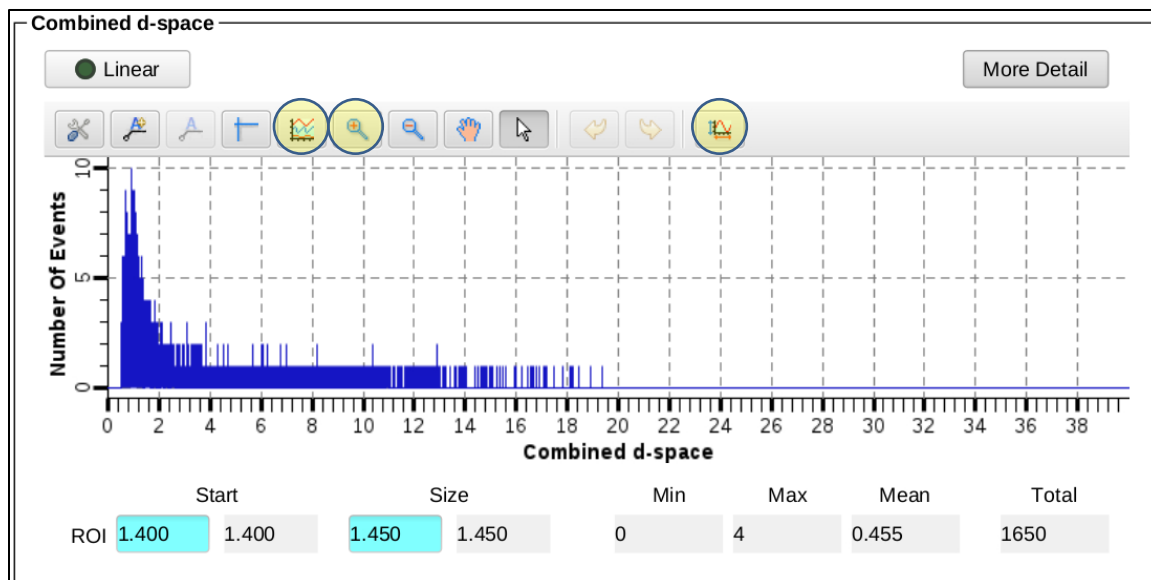

Figure 6. Combined graph, with the Stagger Traces, Rubberband Zoom and Reset Axes buttons highlighted (left to right).
**Data Plots** The right section (Figure 5) of the dashboard displays data plots. At the top is the North (BL-12) side Detector 2D Plot, which displays the total counts across each detector face. Below that is the South (BL-10) side Detector 2D Plot. These plots should correspond to the expected pictures posted in the hutch. If one of the detectors displays no intensity, please contact beamline staff or the IHC (after hours). The bottom plot shows the diffraction data, summed across all detectors, as a function of d-spacing,  $Q$  ( $=2\pi/d$ ) or time-of-flight, as well as the beam monitor spectrum. Plot options are available in the toolbar (Figure 6). To zoom in, click the Rubberband Zoom button in the graph toolbar and then click and drag on the plot. Clicking the Stagger Traces button in the graph toolbar will autoscale the y-axis. Clicking the Reset Axes button will zoom both axes back out to full.